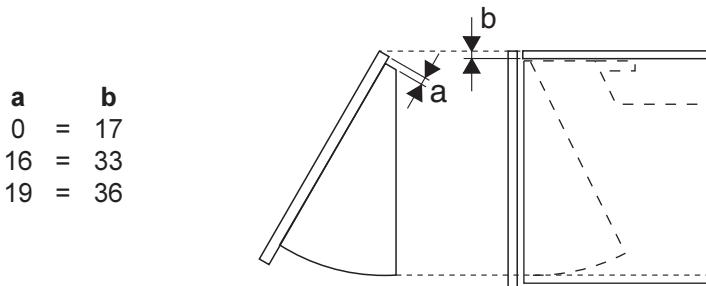

**Fig. 11**
- Fit the spacer M on the hood with two screws O and washers, ensure that there is not a gap between the back of the hood and the wall by adjusting the spacer M tightly to the wall, using the screws O. **Fig. 11.**
- Screw the two mountings hooks **P** into the top two wall plugs. **Fig. 11.**
- Fix the base spacer **M** to the wall with the two screws **R** 5x45 provided using either the long or the short arm, depending on the depth of the side cupboards. Do not tighten the screws fully. **Fig. 11.**
- Fix the hood to the wall by means of the two hooks **P** previously mounted, but first move the upper brackets **S** so that the front panel of the hood, once mounted, will be in line with the front edge of the cupboard doors. The two upper brackets **S**, located at the top rear edge of the hood may be slid backwards and forwards by loosening its fixing screws **T** adjacent to them on the upper hood surface. **Fig. 11.**
- Check that the hood is at the right height. Minor height adjustments may be made with the screws **U** embodied in the brackets. **Fig. 11.**
- Tighten the two wall fixing screws **R**, through the two access holes **N** provided on the inside of the hood then fix the lower sliding frame to the hood with two screws **O** and washers. **Fig. 11.**